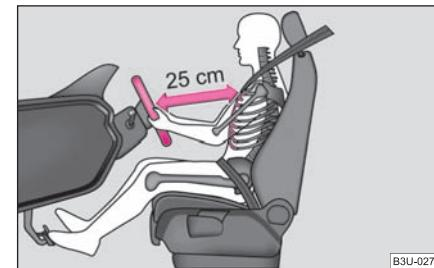

Fig. 4 The correct distance of the driver from the steering wheel
- Adjust the steering wheel so that the distance between the steering wheel and your chest is at least 25 cm ⇒ fig. 4. Not maintaining this minimum distance will mean that the airbag system will not be able to properly protect you – hazard!